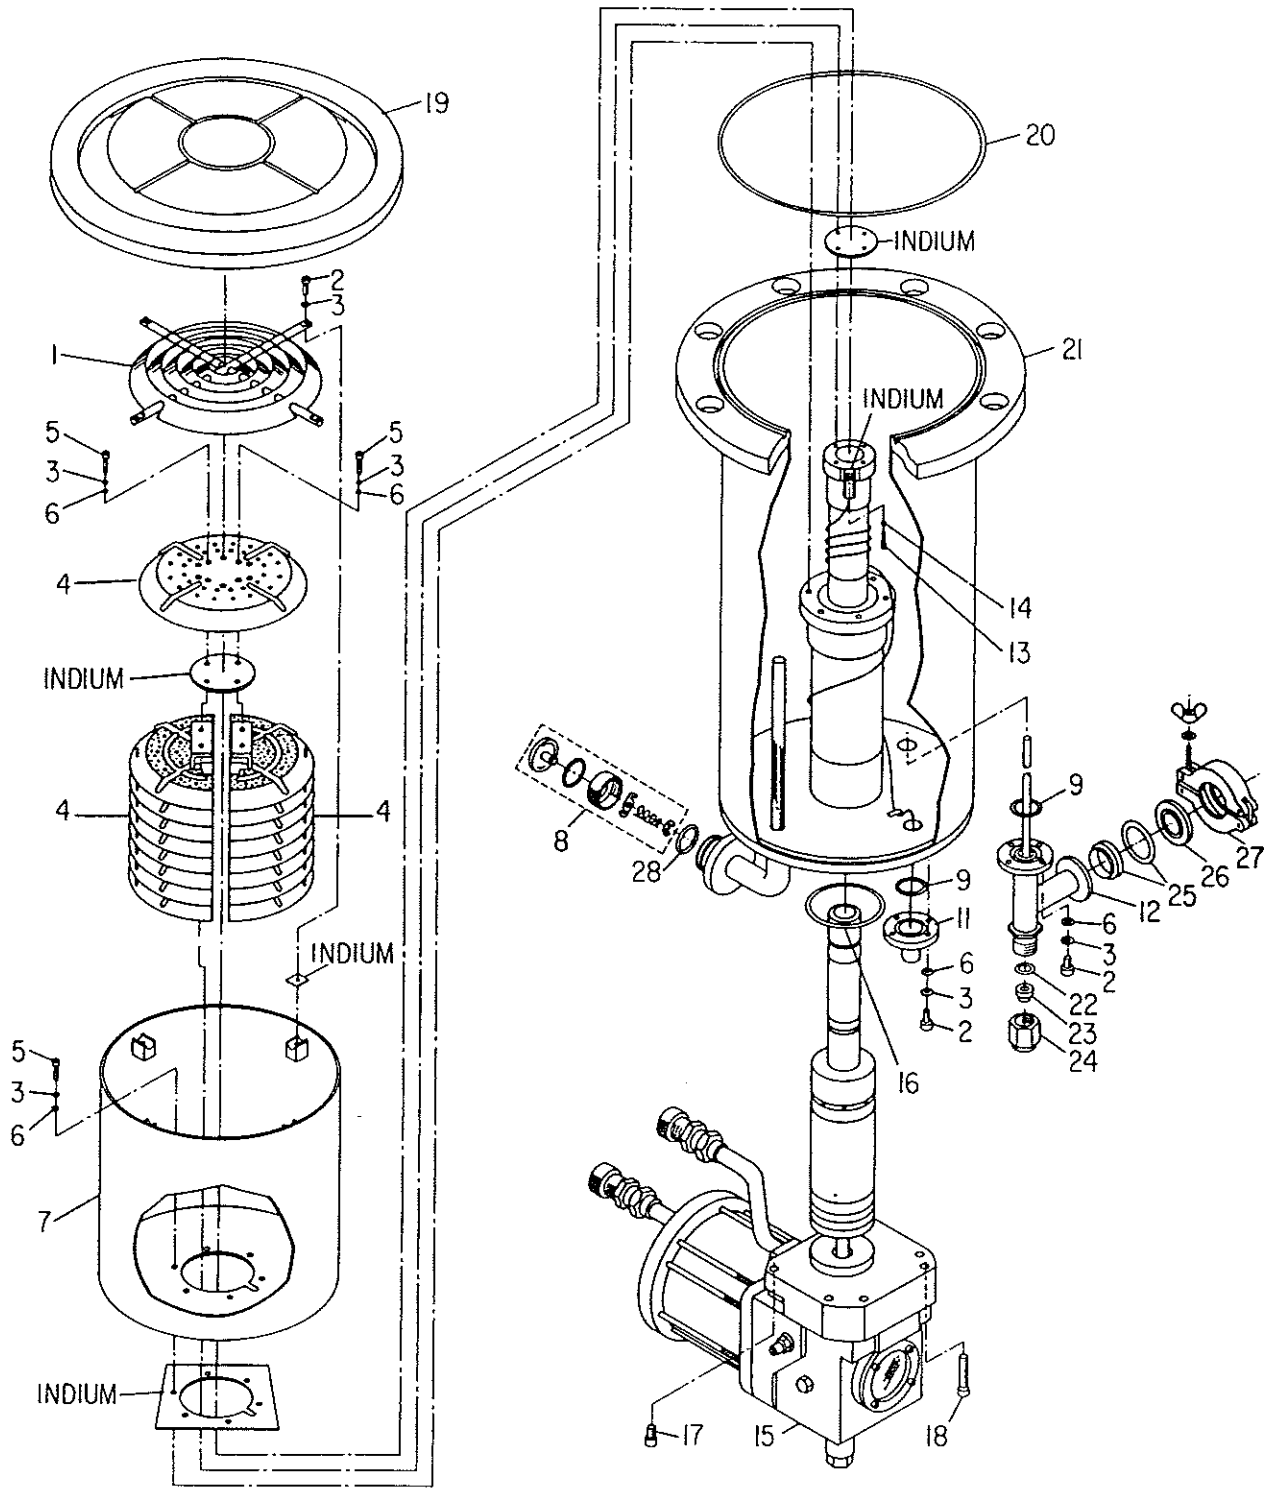

Figure B.3 Exploded view of Cryo-Torr 8 Cryopump
Legend: Figure B.3
*Not shown in Figure B.3